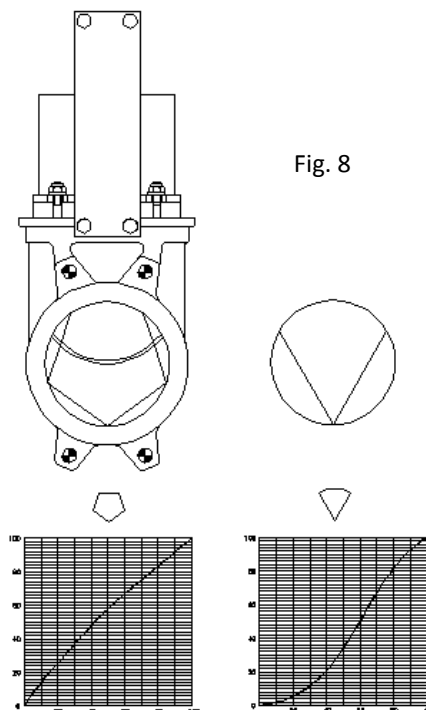

Fig. 8
**-Triangular (V-Notch) and Pentagonal Diaphragm with Indication Rule (Fig. 8):** Recommended for applications in which flow regulation is required.